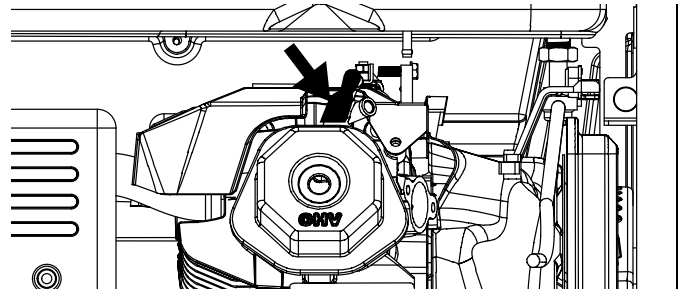

Figure 23 - Remove Spark Plug Boot
3. Remove the spark plug boot by firmly pulling the plastic spark plug boot handle directly away from the engine (see Figure 23).